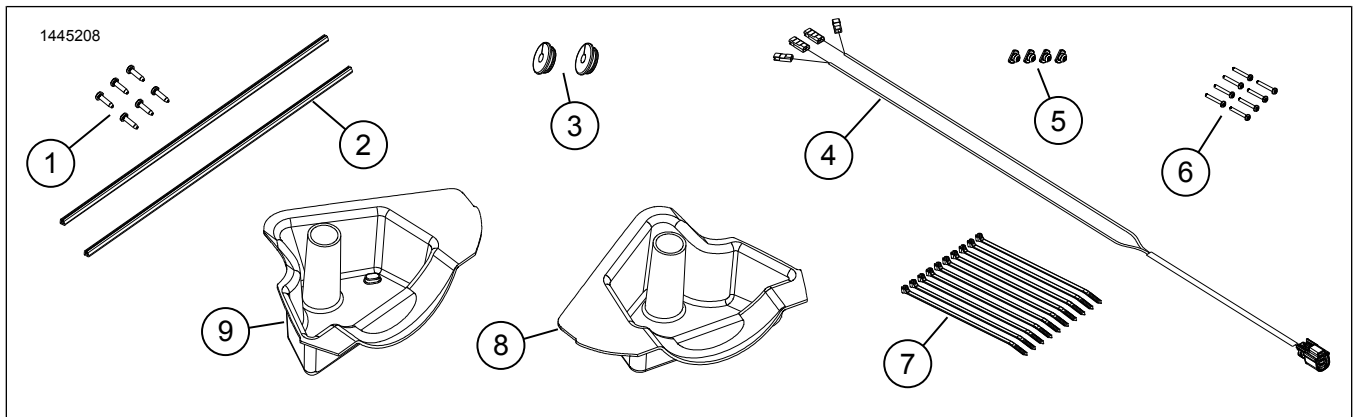

Figure 19. Service Parts, Fairing Lower Speakers
14. See Figure 19. Install rubber grommet (3) into drilled hole.
6. See Figure 19. Connect [351B] of speaker wire harness (4) to: